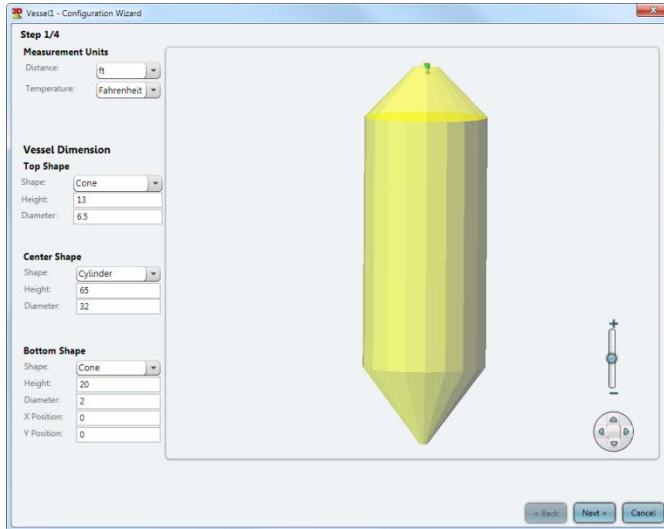

Figure 22: Configuration Wizard Step 1 – Vessel Dimensions
- ① Select the vessel from the vessel selection bar (refer to *Main Screen on page 27*) and from the Device menu select **Device Configuration Wizard....** The Configuration Wizards opens (*Figure 22*). Set the **Measurement Units** in use for **Distance** and for **Temperature**.